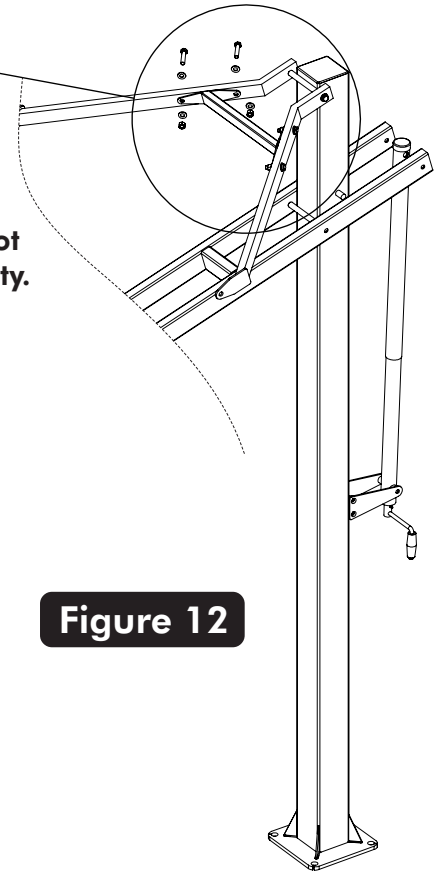

Figure 12
18. With the help of another adult attach the Cross brace (#52) with four Bolts (#50), eight Washers (#51) and four Nuts (#4) as shown in Figure 12 and Detail C.
20. Mount Goal Assembly (#28) and Rim Pad (#27) to Backboard, as shown in Figure 12, using four bolts (#29), washer (#26) and four nuts (#24). Tighten Fasteners but leave loose enough to level rim.